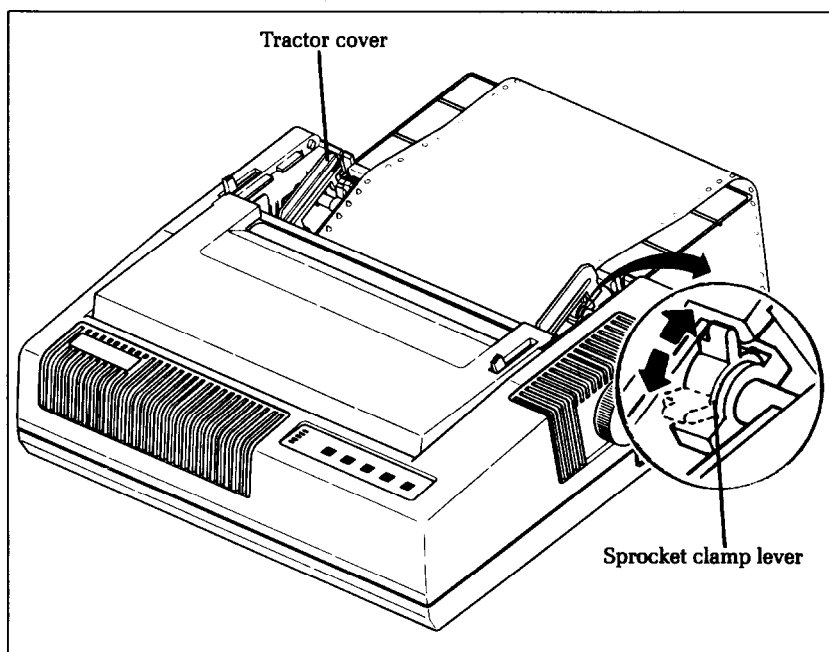

Figure 2-7. The tractors, which guide the paper, are underneath the rear cover.
5. Open the tractor covers, located on top of the left- and right-hand sprocket units (Figure 2-7).